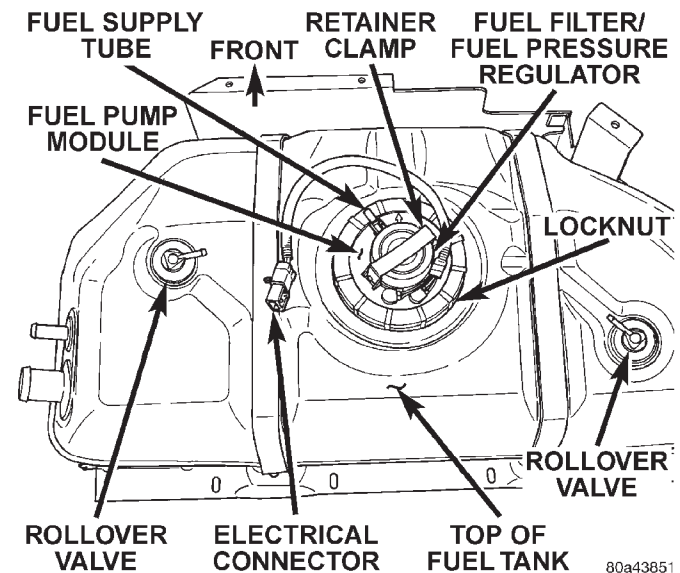
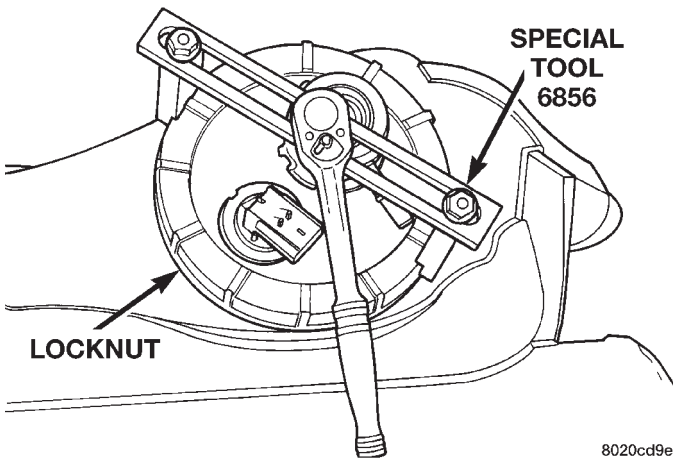

Fig. 25 Top View of Fuel Tank and Fuel Pump Module
Fig. 26 Locknut Removal/Installation—Typical INSTALLATION
- (1) Drain fuel tank and remove tank. Refer to the Fuel Tank Removal/Installation section of this group.
- (2) Thoroughly wash and clean area around pump module to prevent contaminants from entering tank.
- (3) The plastic fuel pump module locknut is threaded onto fuel tank (Fig. 25). Install Special Tool 6856 to fuel pump module locknut and remove locknut (Fig. 26). The fuel pump module will spring up when locknut is removed.
- (4) Remove module from fuel tank.